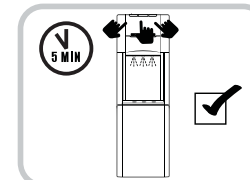

Fig.2
5. Plug the dispenser unit into the electrical outlet. Please review the IMPORTANT SAFETY INSTRUCTIONS and INSTALLATION GUIDELINES before doing so. The unit will start to fill the cold and hot water tanks (it will take approx. 5 minutes). Allow the water to settle into the cold and hot water tanks for 5 minutes. Push each water tap ( hot and cold temperature) to ensure water is running through the unit. (Fig. 2)